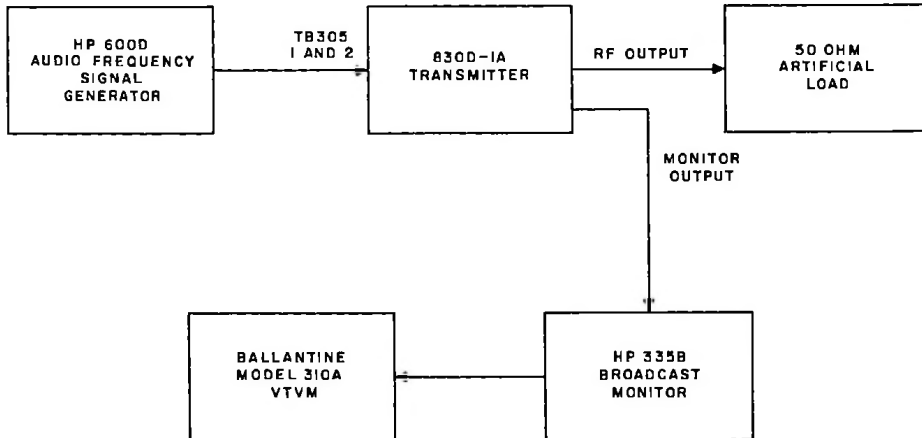

Figure 5-4. FM Noise Test Setup
a. Refer to figure 5-4. Connect an audio frequency signal generator, such as a Hewlett-Packard Model 600D, to terminals 1 and 2 of terminal board TB305. (Disconnect the station console audio input leads when making this measurement.) Connect a vacuum tube voltmeter to the output terminals of the broadcast